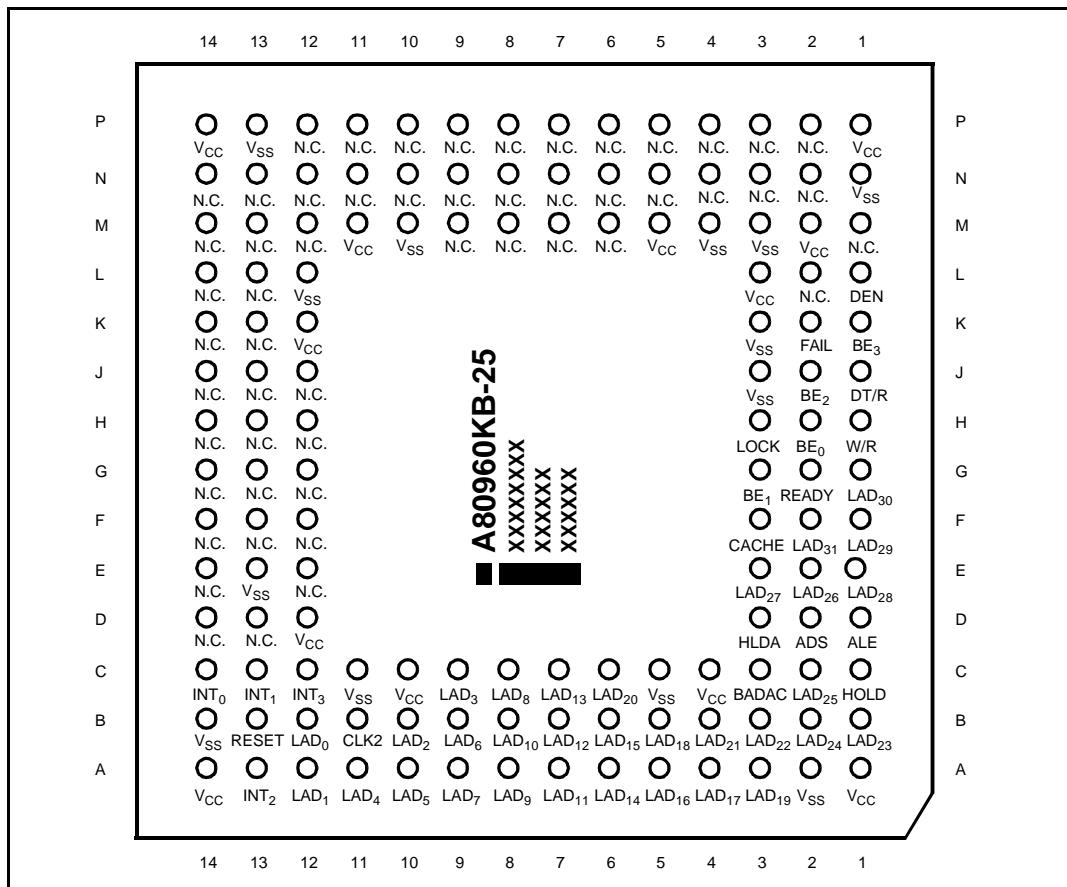
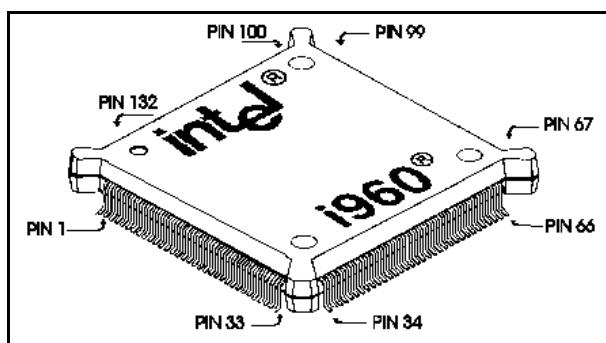
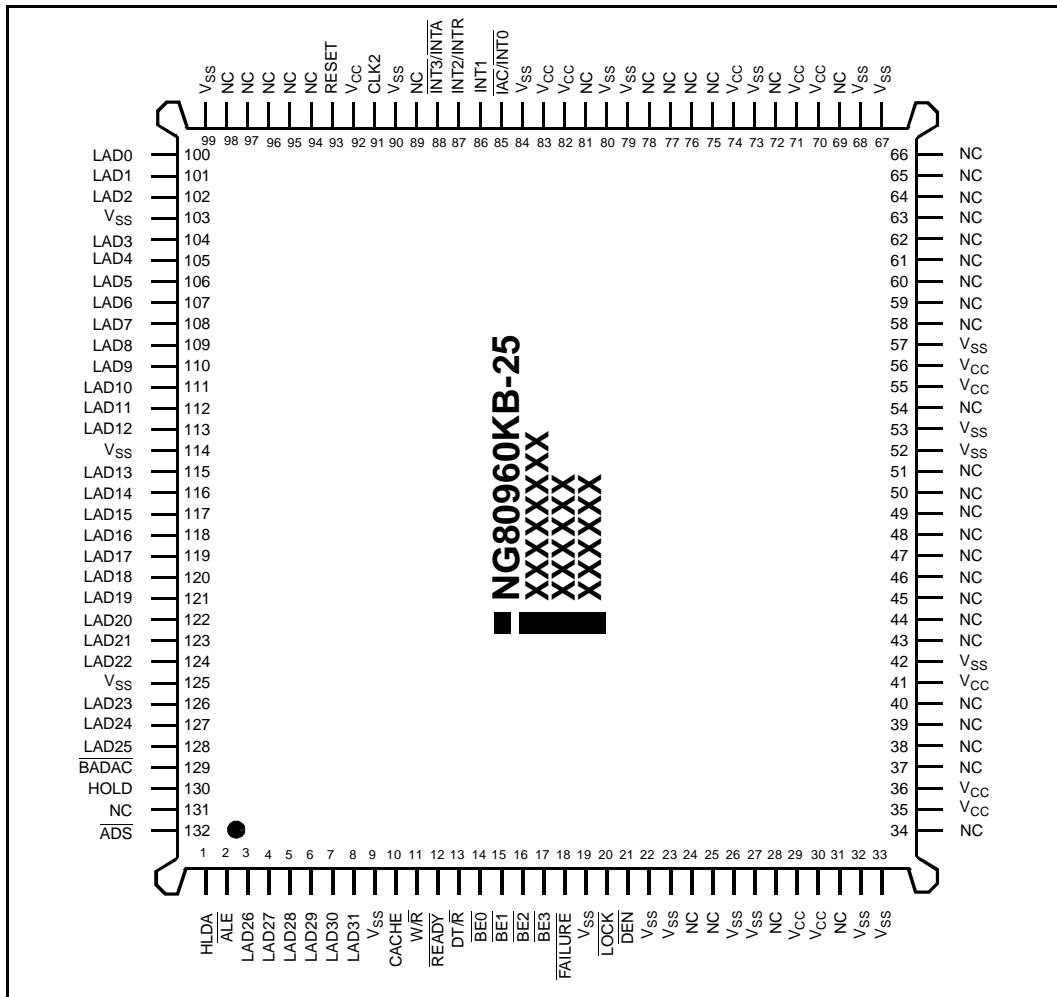

Figure 19. 80960KB PGA Pinout—View from Top (Pins Facing Down)
Figure 20. 80960KB 132-Lead Plastic Quad Flat-Pack (PQFP) Package
Figure 21. PQFP Pinout - View From Top
- 132-lead plastic quad flat pack (PQFP). This package uses fine-pitch gull wing leads arranged in a single row along the package perimeter with 0.025 inch (0.64 mm) spacing (see Figure 20).
The PGA and PQFP have different pin assignments. Figure 18 shows the view from the PGA bottom (pins facing up) and Figure 19 shows a view from the PGA top (pins facing down). Figure 20 shows the PQFP package; Figure 21 shows the PQFP pinout with signal names. Notice that the pins are numbered in order from 1 to 132 around the package perimeter. Table 10 and Table 11 list the function of each PGA pin; Table 12 and Table 13 list the function of each PQFP pin.